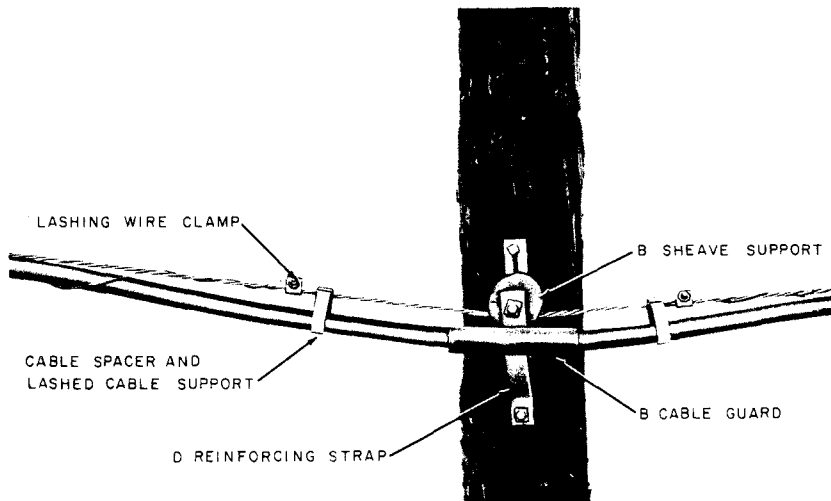

Fig. 25—B Sheave Support and D Reinforcing Strap Used to Support Strand and Cable at a Grade Change
11.03 As shown in Fig. 25, the D reinforcing strap is used with a B sheave support to prevent bending of the cable suspension bolt at both upward and downward grade changes exceeding 20 percent.
11.05 When lashing, the cable must pass outside the sheave assembly as shown in Fig. 25.
11.06 Secure the lashing wire on both sides of the attachment with lashing clamps. Install cable spacers and lashed cable supports as shown in Fig. 25.